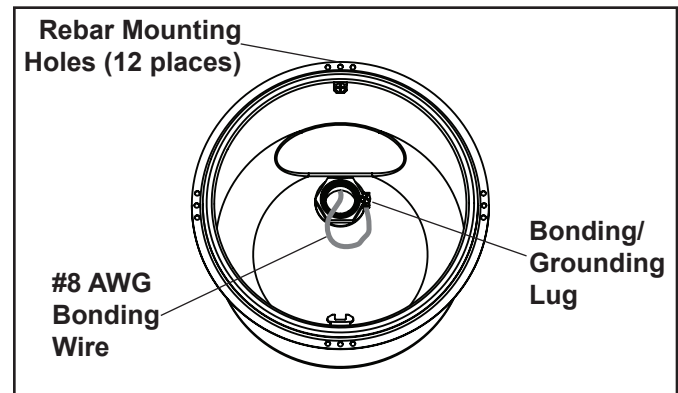

Figure 6. Stainless Steel Niche Bonding Wire Installation
- e. If rigid nonmetallic conduit is used, a #8 AWG (#6 AWG for Canadian installations) bonding wire is required to run through conduit from the junction box to the bonding/grounding lug inside of niche. Seal the wire/lug connection with a listed sealant. See Figure 6. If metallic conduit is used a bonding wire is not required.